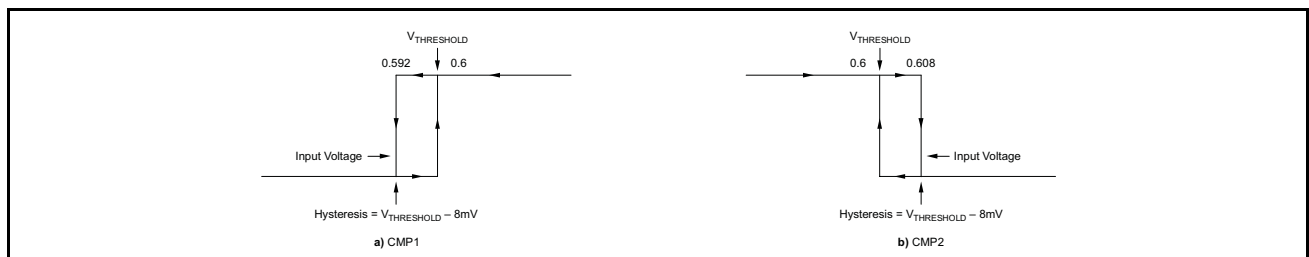

Figure 1. Comparator Hysteresis
- (1) Hysteresis refers to the threshold (the threshold specification applies to a rising edge of a noninverting input) of a falling edge on the noninverting input of the comparator. Refer to Figure 1.
- (2) Specified by design.
- (3) See the *Comparator Maximum Input Voltage Range* section in the *Applications Information*.
- (4) The comparator response time specified is the interval between the input step function and the instant when the output crosses 1.4 V.
- (5) RESET input has an internal 2M Ω (typical) pull-down. Leaving RESET open results in a LOW state, with transparent comparator operation.
- (6) The Comparator 2 delay applies to both rising and falling edges of the comparator output.